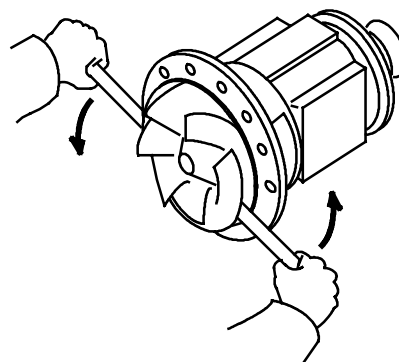

Fig. 4
- 3 Detach the impeller by turning it counter-clockwise. Push e.g. pieces of wood between the impeller vanes to ease the detachment. Never use metal bars or the like, because they might damage the impeller vanes. Fig. 4.